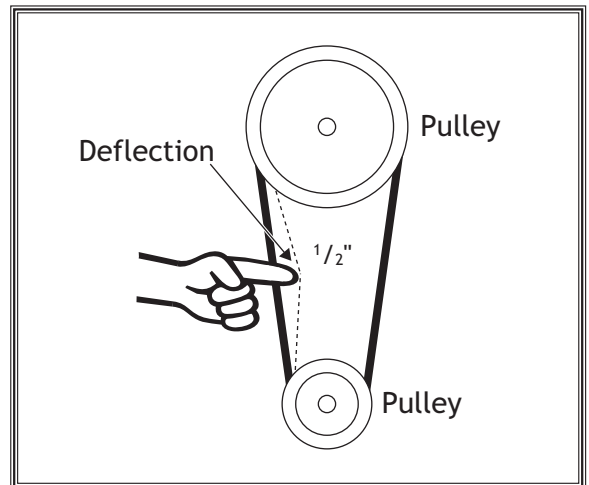

Figure 37. Checking belt deflection.
4. Press belt with moderate pressure in center to check tension. Belt is correctly tensioned when there is approximately 1/2" deflection when pushed as shown in Figure 37.